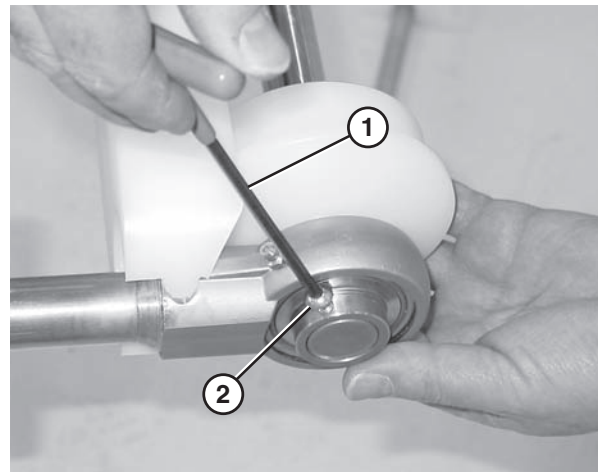

Figure 88
5. Use a hex wrench (Figure 88, item 1) to tighten the bearing shaft fasteners (Figure 88, item 2) to 54 in•lbs (6 N•m). Check after 24 hours of conveyor use.